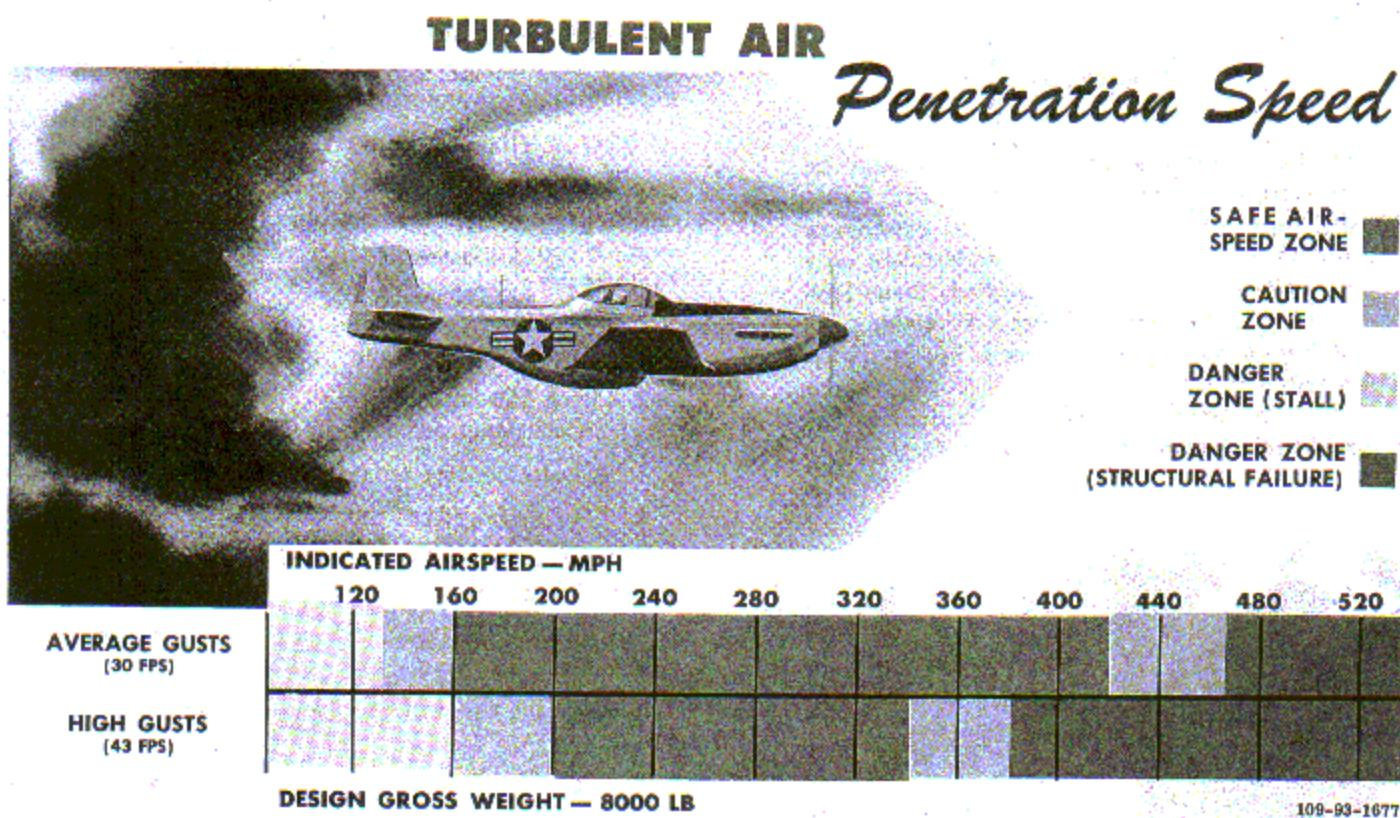

Figure 9-3
2. Check 260 mph cruising speed power settings for comfortable penetration speed. (See figure 9-3.)